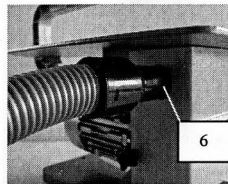

Fig. 9
The extraction port on the machine is designed for a house hold vacuum cleaner. Insert the connection piece of the vacuum cleaner into the opening (6) of the port ensuring that it is located firmly. (Fig. 9)